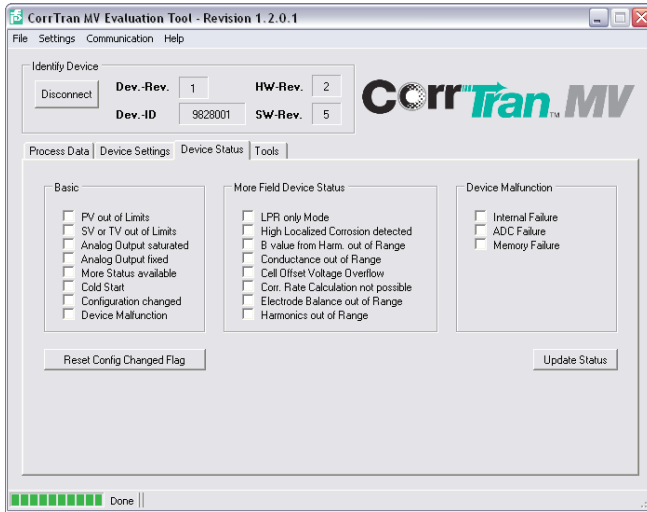

Figure 27. Device Status Tab Device
- Log On/Off – When checked it enables the data logging capabilities of the CorrTran MV Evaluation Tool. You will need to place a checkmark by each data point you wish to log. Figure 27 provides data logging of every possible data point in a cyclical manner. For more information on the logging capabilities of the CorrTran MV Evaluation Tool see section 7.3.4.
The Device Status tab, seen in Figure 27, allows you to view any system errors or faults the CorrTran AQUA may be experiencing. Errors or faults appear as check marks next to their descriptor.